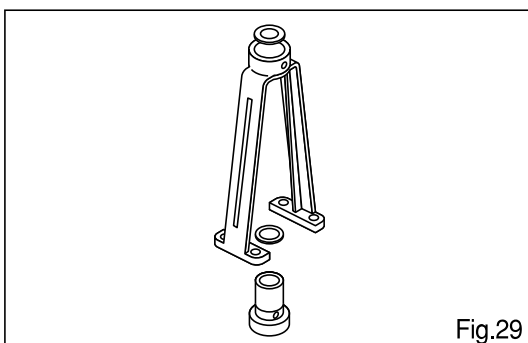

Fig.29
4. Remove yoke sleeve ⑨ from inside the yoke ⑦ and remove thrust-bearing ⑩. (Fig.29)